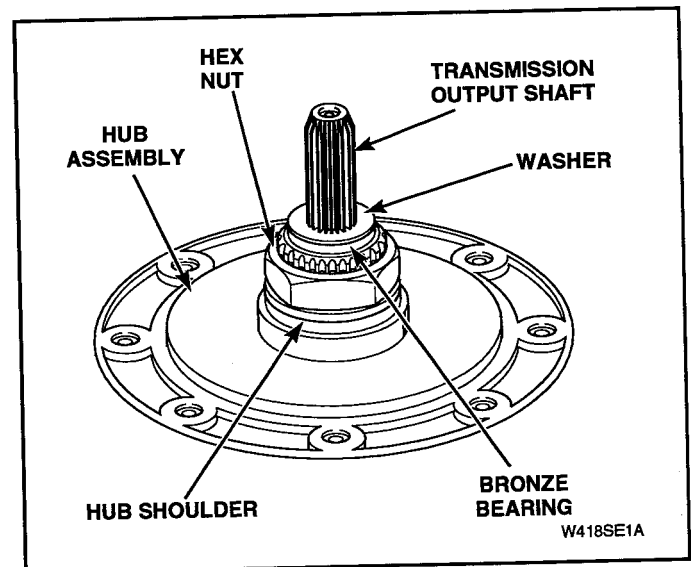

Figure 5-30
- j. Remove large hex nut using a No. 306P4 Hex Wrench. See Figure 5-30.